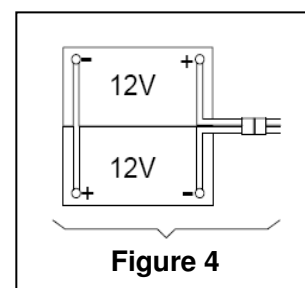

Figure 4
This machine requires two (2) 12V batteries. Either wet or GEL / AGM batteries can be used. Please connect as shown in Figure 4 to the right.
1. Check the batteries. Ensure the connector (9) is connect to the battery pack.
2. Press the on / off switch (41) into the “on” position. If the green light is on, that indicates the batteries are ready for use.